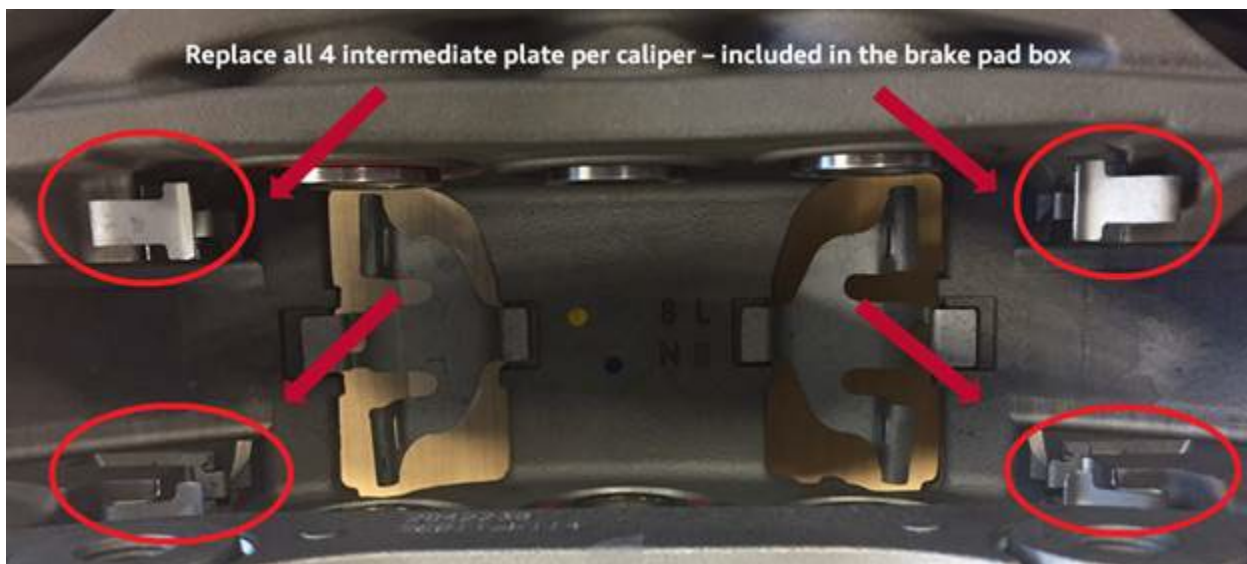

Figure 5. Intermediate plate locations.
D. It is mandatory to replace all 4 brake pad intermediate plates per caliper – included in the brake pad box (Figure 5).